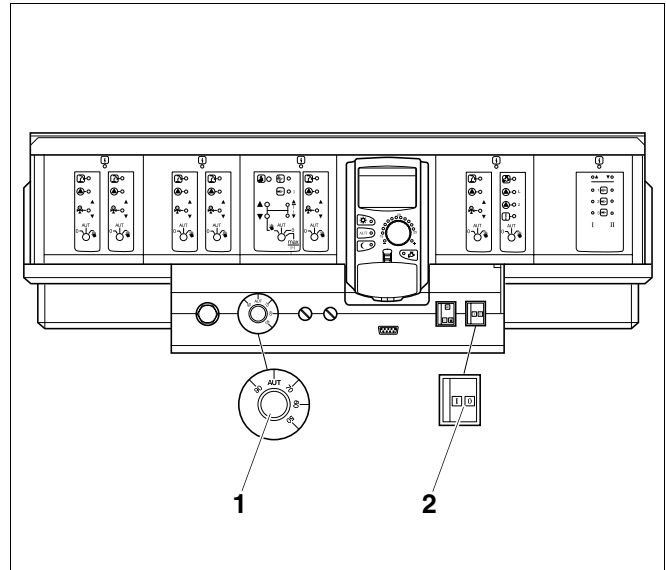

Fig. 30 Logamatic 4000 control unit
- To reset, set the ON/OFF switch (Fig. 30, **Item 2**) to "0" (OFF).
After waiting approx. 3 minutes, set the ON/OFF switch (Fig. 30, **Item 2**) to "1" (ON). If the gas burner will not start after pressing the ON/OFF switch several times (see Chapter 11 "Troubleshooting", page 55).